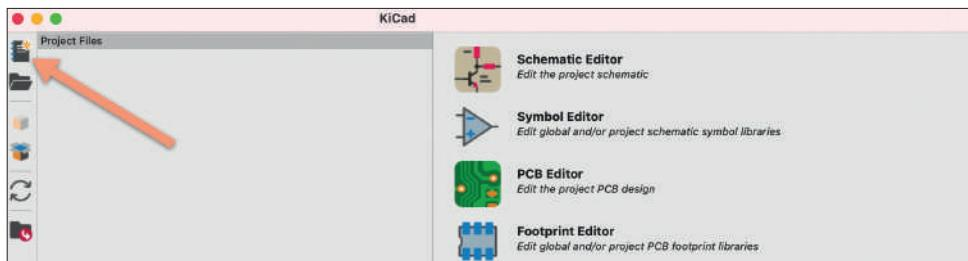
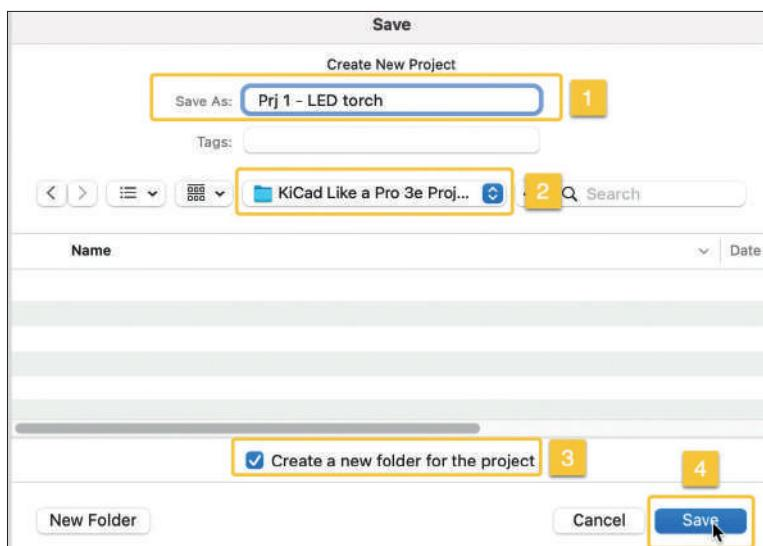

Figure 3.4.1: The main KiCad project window, about to create a new project.
Figure 3.4.3: The new KiCad project name and location.
Open KiCad. The main project window will look like this (Figure 3.4.1):
Go ahead and click on the new project button (see arrow in Figure 3.4.1). KiCad will ask you for a name and location for your new project. In the dialog that appears (Figure 3.4.3), provide a name (1), location (2), enable the new folder creation option (3) and click Save (4).
The new project directory contains the three primary files: project, schematic and layout. You now have a new KiCad project, and you are ready to continue work with step one of the schematic design workflow. Before you do this in the next chapter, take a few moments to familiarise yourself with the available apps through the main KiCad window. You can open those apps using the buttons in the right pane of the main KiCad window (Figure 3.4.1). Apart from the Schematic and Layout editors, you can see: